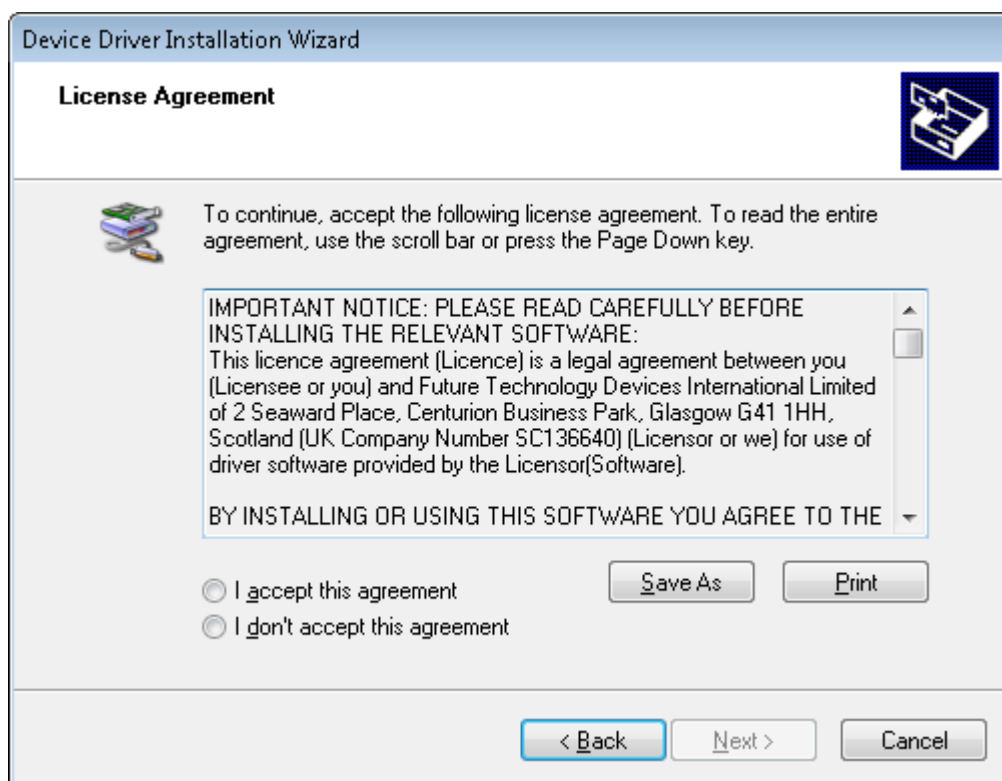

Figure 15. License Agreement for FTDI Driver
16. The License Agreement appears on screen as shown in Figure 15.